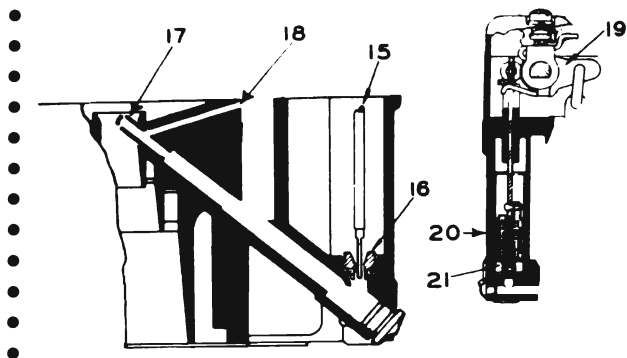

Fig. 6-78. High Speed Circuit
The intermediate and high speed circuit consists of the metering rod (15), metering rod jet (16), nozzle (17), anti-percolator (18), arm assembly (19), vacuum piston and link assembly (20), vacuum piston spring (21). See Fig. 6-78.